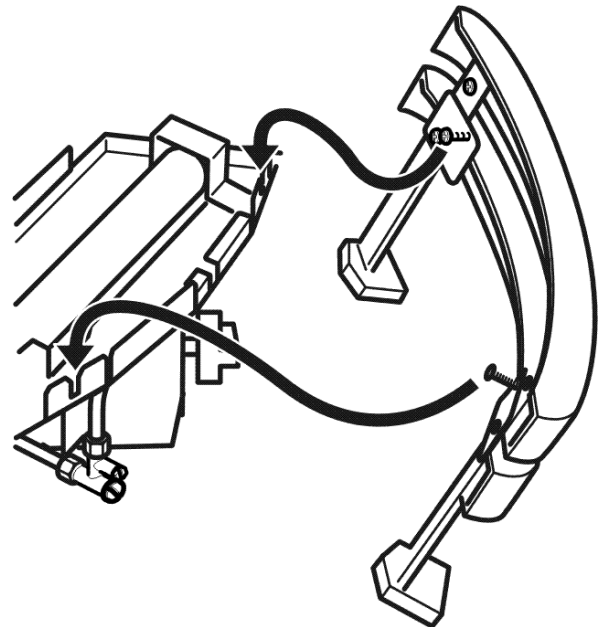

Figure 16. Hanging the firefront
3. Locate the firefront as in figure 16. The screw heads should locate into the slots in the burner tray.